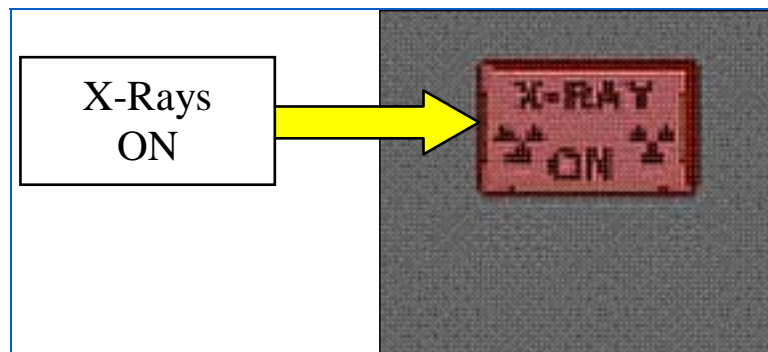
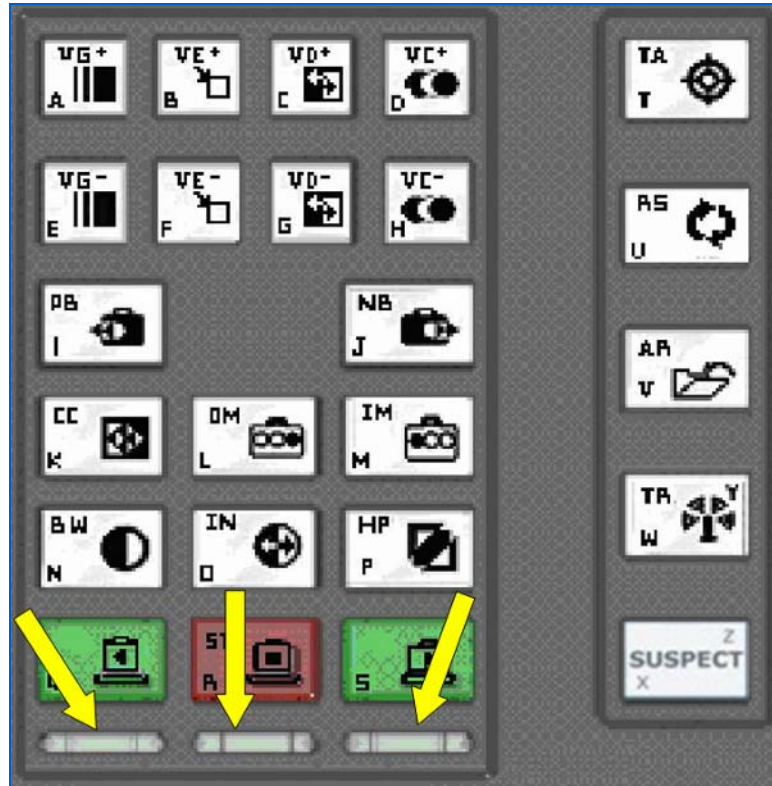

Figure 124: X-rays On Light
Figure 125: Conveyor Indicator Lights
The Operator Control Panel features five indicator lights. Figure 124 shows two of those lights: X-rays On and System On. Figure 125 shows the indicator lights at the base of the Image Processing Keypad (NOTE the SE button. These lights are for the Reverse (RE), Stop (ST) and Forward (FW) conveyor buttons and indicate when the respective buttons have been pushed.